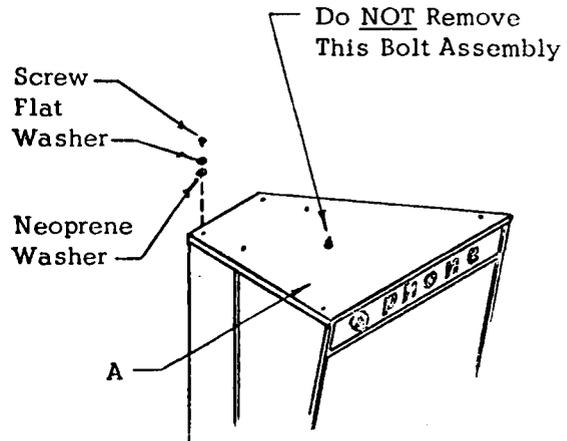

Fig. 10
1. REMOVE TOP (A). (SEE FIG. 10)